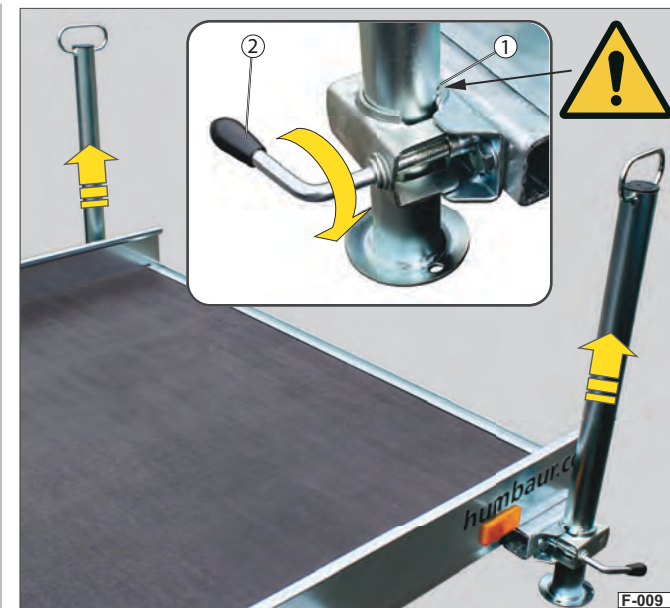

Fig. 9 Raising prop stand (driving position)
- ▶ Unscrew the T-handle (Fig. 9 /2).
- ▶ Hold the handle and pull up the prop stand. The weld spot (Fig. 9 /1) should be at the edge of the clamp.